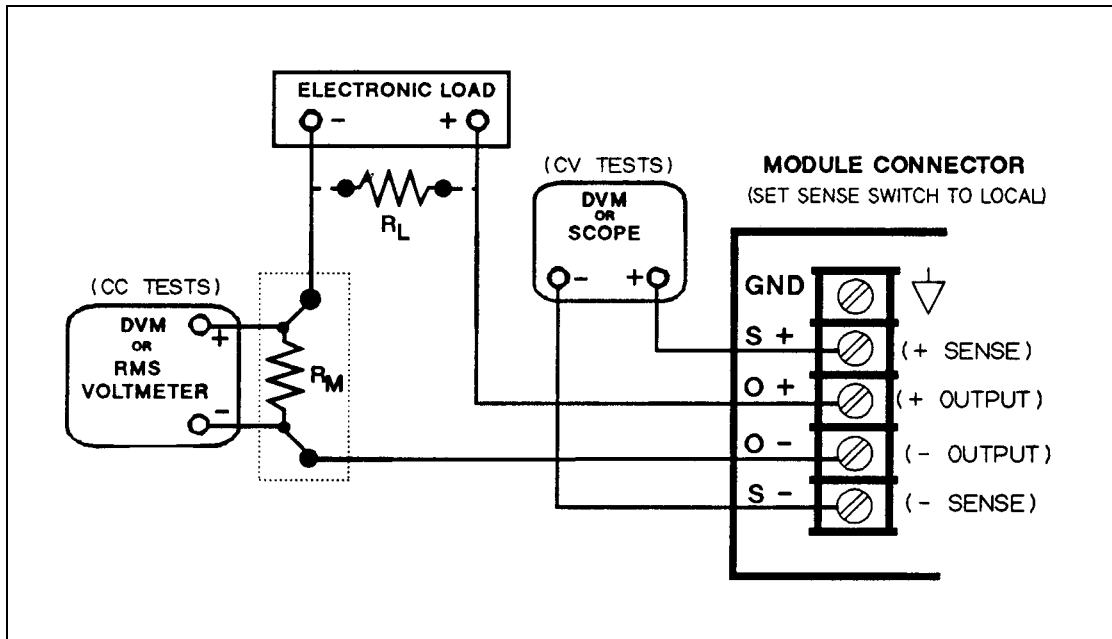

Figure 2-1. Performance Test Setup
To eliminate output current measurement error caused by voltage drops in the leads and connections, connect the current monitoring resistor between the output and the load as a four-terminal device (see R_M in Figure 2-1). Connect the current monitoring leads inside the load lead connections directly at the monitoring points on the resistor element.
1. Turn off the power module and connect a digital voltmeter between the + S and --S terminals (see Figure 2-1).
1. Turn off the module and connect the output as shown in Figure 2-1 with the DVM connected between the + S and - S terminals.
6. The difference between the DVM readings in steps (4) and (5) is the load effect voltage and should not exceed the value listed in the Performance Test Record Tables under CV LOAD EFFECT, for the model being tested.
2. Connect the output as shown in Figure 2-1 with the DVM connected between the + S and - S terminals. Set the transformer to nominal line voltage (either 115Vac or 230Vac).
9. The difference between the DVM readings in steps (6) and (8) is the source effect voltage and should not exceed the value listed in the Performance Test Record Tables under CV SOURCE EFFECT, for the model being tested.
1. Turn off the module and connect the output as shown in Figure 2-1 to an oscilloscope (ac coupled) between the + and-- terminals. Set the oscilloscope's bandwidth limit to 20MHz (30MHz on the Agilent 54504A) and use an RF tip on the oscilloscope probe.
1. Turn off the module and connect the output as shown in Figure 2-1 with the oscilloscope across the + S and -S terminals.
1. Turn off the module and connect the output to be tested as shown in Figure 2-1 with the voltmeter connected across the current monitoring resistor.